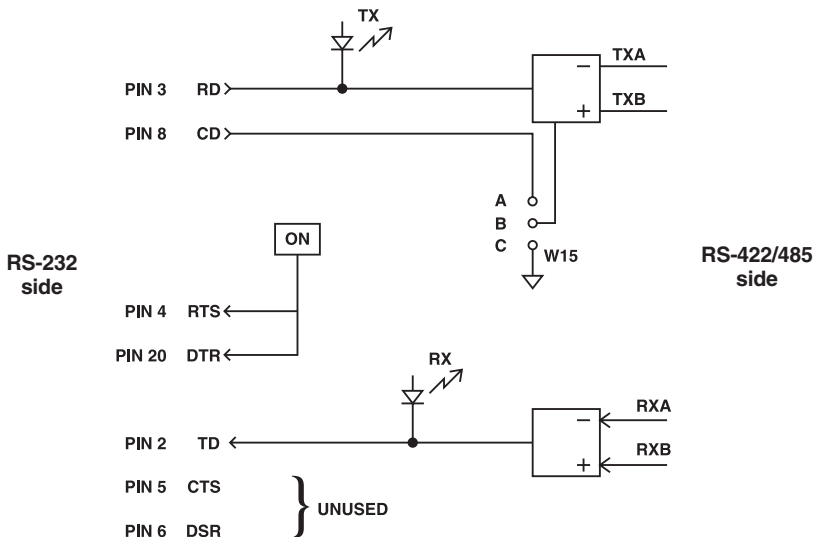

Figure 5-2. Block diagram of Converter functions in DTE mode.
When the RS-232 port is configured as DTE (see Figure 5-2 on the next page), RS-232 Pin 8 (CD) performs the same function as RTS/DTR does for DCE (it asks for permission to send). Or, again, you can constantly enable the RS-422/485 driver by setting the W15 jumper to the B and C position.